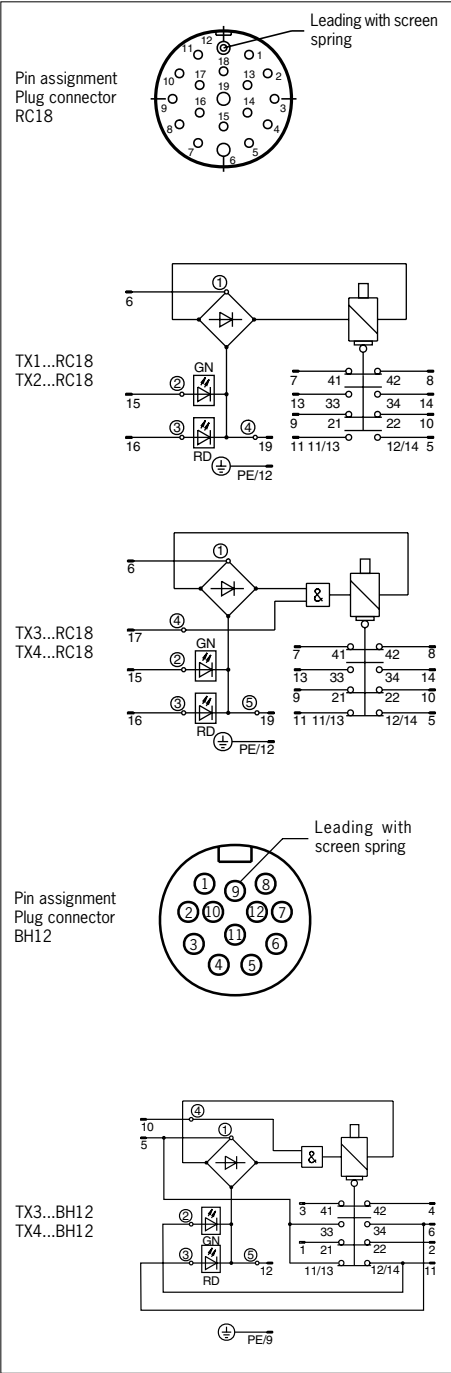

Figure 6: Pin assignment
- ▶ For pin assignment see Figure 6.